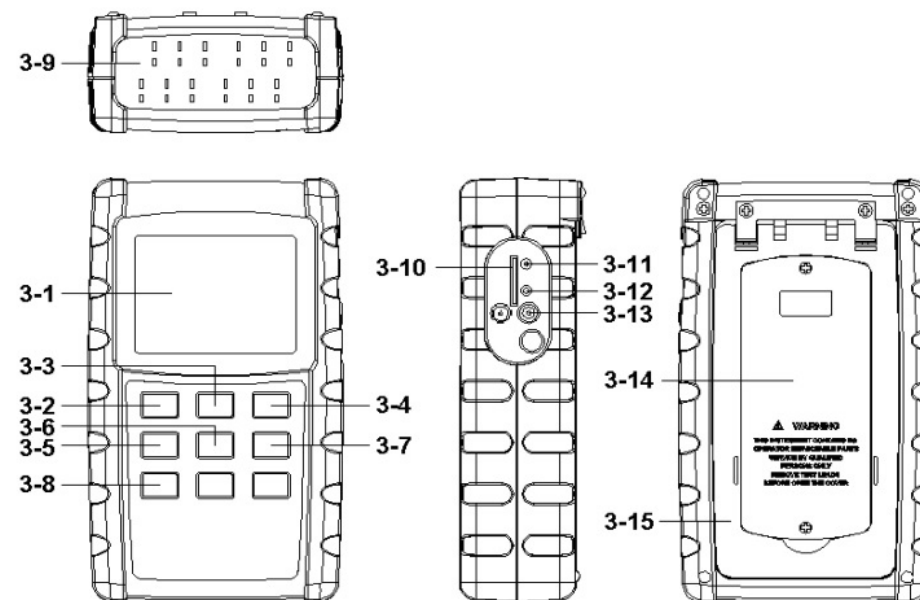

Fig. 1
- Power on the meter by pressing the „ Power button „ (3-2, Fig. 1) once.
- Insert the Type K probes into the „ T1, to T12 input socket „ (3-9, Fig. 1).
If intend to show the other 4 channels (CH9, CH10, CH11, CH12) temperature value, just press the „ Page Button „ (3-6, Fig. 1) once , the Display will show those channels' Temp. value following, press the „Page Button „ (3-6, Fig. 1) once again, the Display
All the measuring procedures are same as the Type K (chapter 4-1), except to select the Temp. Sensor type to „ Type J, T, R, S „ by pressing the „ Type Button „ (3-5, Fig. 1) once in sequence until the up LCD display show the „ J, K, T, E, R, S „ indicator.
During the measurement, press the „ Hold Button „ (3-3, Fig. 1) once will hold the measured value & the LCD will display a „ HOLD „ symbol. Press the „ Hold Button „ once again will release the data hold function.
1)The data record function records the maximum and minimum readings. Press the „ REC Button „ (3-4, Fig.1) once to start the Data Record function and there will be a „ REC „ symbol on the Display.
a) Press the „ REC Button „ (3-4, Fig. 1) once, the „ REC MAX „ symbol along with the maximum value will appear on the Display. If intend to delete the maximum value, just press the „ Hold Button „ (3-3, Fig. 1) once, the Display will show the „ REC „ symbol only & execute the memory function continuously.
b) Press the „ REC Button „ (3-4, Fig. 1) again, the „ REC MIN „ symbol along with the minimum value will appear on the Display. If intend to delete the minimum value, just press the „ Hold Button „ (3-3, Fig. 1) once, the Display will show the „ REC „ symbol only & execute the memory function continuously.
After power ON, the „ LCD Backlight „ will light automatically. During the measurement, press the „ Backlight Button „ (3-2, Fig. 1) once will turn OFF the „ LCD Backlight „. Press the „ Backlight Button „ once again will turn ON the „ LCD Backlight „ again.
a. Insert the SD card Prepare a „ SD memory card „ (1 GB to 16 GB, optional), insert the SD card into the „ SD card socket „ (3-10, Fig. 1). Please plug the SD card in the right direction, the front name plate of the SD card should face against the up case.
Press the „ REC Button (3-4, Fig. 1) once , the LCD will show the text „ REC „, then press the „ Logger Button „ (3-7, Fig. 1), the „ REC „ will flashing and beeper will sound, at the same time the measuring data along the time information will be saved into the memory circuit. Remark :
During execute the Datalogger function , if press the „ Logger Button „ (3-7, Fig. 1) once will pause the Datalogger function (stop to save the measuring data into the memory circuit temporally). In the same time the text of „ REC „ will stop flashing.
If press the „ Logger Button „ (3-7, Fig. 1) once again will execute the Datalogger again, the text of „ REC „ will flashing .
During pause the Datalogger, press the „ REC Button „ (3-4, Fig. 1) continuously at least two seconds, the „ REC „ indicator will be disappeared and finish the Datalogger.
a. Set sampling time is to 0 second Press the „ REC Button (3-4, Fig. 1) once , the LCD will show the text „ REC „, then press the „ Logger Button „ (3-7, Fig. 1) once, the „ REC „ will flashing once and Beeper will sound once, at the same time the measuring data along the time information and the Position no. will be saved into the memory circuit.
* During execute the Manual Datalogger, press the „ ▲ Button „ (3-5, Fig. 1) once will enter the „ Position / Location no. setting. use the „ ▲ Button „ or „ ▼ Button „ (3-6, Fig. 1) to select the measuring location no. (1 to 99, for example room 1 to room 99) to identify the measurement location. After the position no. is selected, press the „ Enter Button „ (3-4, Fig. 1) once will save the Position/ Location no. automatically.
Press the „ REC Button „ (3-4, Fig. 1) continuously at least two seconds, the „ REC „ indication will be disappeared and finish the Datalogger.
During the normal measurement (not execute the Datalogger), If press „ Time check Button „ (3-8, Fig. 1) once , the left lower LCD display will present the time information (Year, Month/Date, Hour/ Minute) in sequence.
During the normal measurement (not execute the Datalogger), If press „ Sampling time check Button „ (3-7, Fig. 1) once , the left lower LCD display will present the Sampling time information in second unit.
1) After execute the Data Logger function, take away the SD card out from the „ SD card socket „ (3-10, Fig. 1).